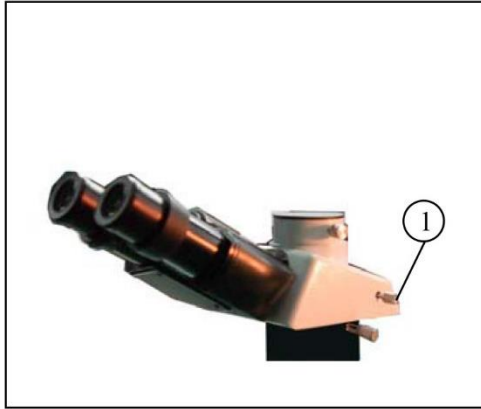

Figure 22
3.3.3. Switching the light path (Figure 22)
- Pulling out the light path selector lever ① by your thumb, select the light path you needed.